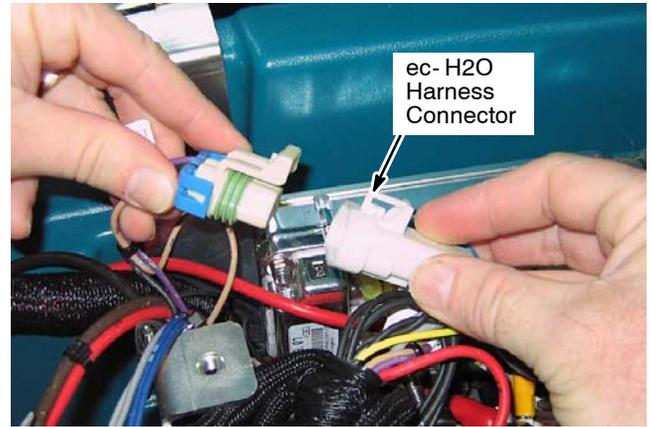

Fig. 9
- Connect the ec-H2O harness connector to the open connector located inside the circuit breaker box (Figure 9).